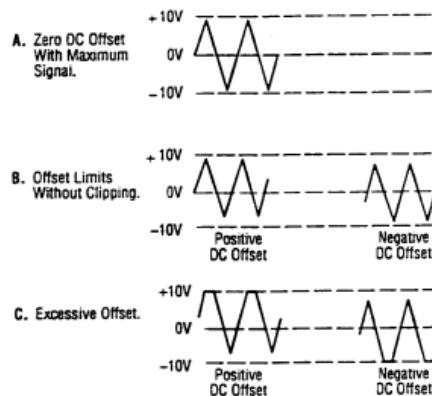

Figure 3. Use of DC OFFSET Control
7. A superimposed DC component can be added to the output signal by engaging the **DC OFFSET** switch (14) to enable operation of the **DC OFFSET** control (5). Rotation of this control adds a positive or negative DC component to the output signal. The DC component introduced is independent of the **OUTPUT LEVEL** control and can be varied by  $\pm 10$  volts open circuited or  $\pm 5$  volts into  $50 \Omega$ . The DC Offset does not affect the **TTL/CMOS** output jack. The effect of DC OFFSET is shown in Fig. 3.
6. Remember that the output signal swing of the generator is limited to  $\pm 10$  volts open circuited or  $\pm 5$  volts into  $50 \Omega$ , and applies to the combined peak-to-peak signal and DC offset. Clipping occurs slightly above these levels. Fig. 3 illustrates the various operating conditions encountered when using the DC offset. If the desired output signal is large or if a large DC offset is required, an oscilloscope should be used to make sure that the desired signal is obtained without undesirable clipping.